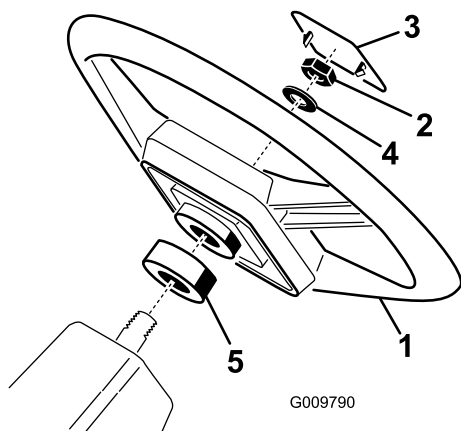

Figure 6
1. Remove the jam nut from the steering shaft. Slide the foam seal, steering wheel and washer onto steering shaft (Figure 6).